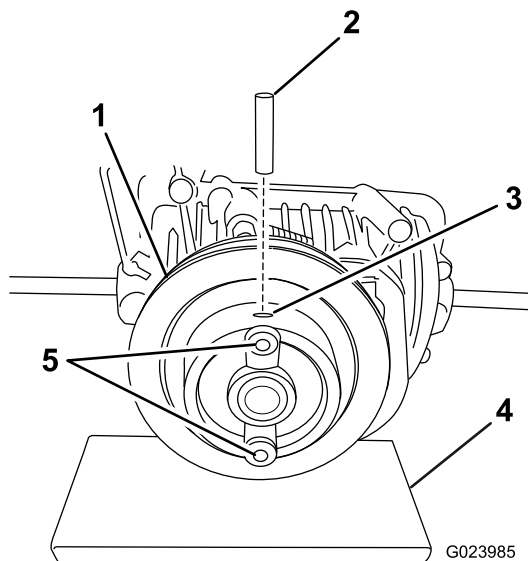

Figure 1
4. Use a hammer and a punch to install the new pin into one of the 2 hole ends (Figure 1).
Note: Support the pulley as you insert the pin to prevent putting excessive stress on the input shaft (Figure 1).
5. Install the 2 screws from the kit into the 2 holes as shown in Figure 1.